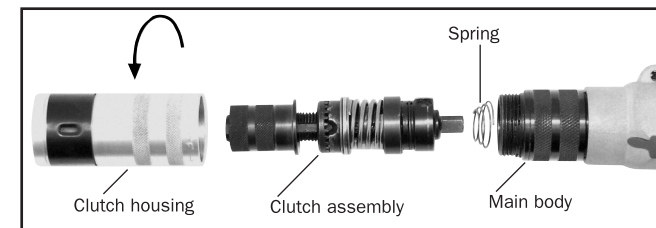

Fig. 3
1. Remove the clutch housing by unscrewing it in the direction shown (See fig. 3). Be careful not to loose the spring.
2. The clutch assembly can now be removed (See fig. 3).